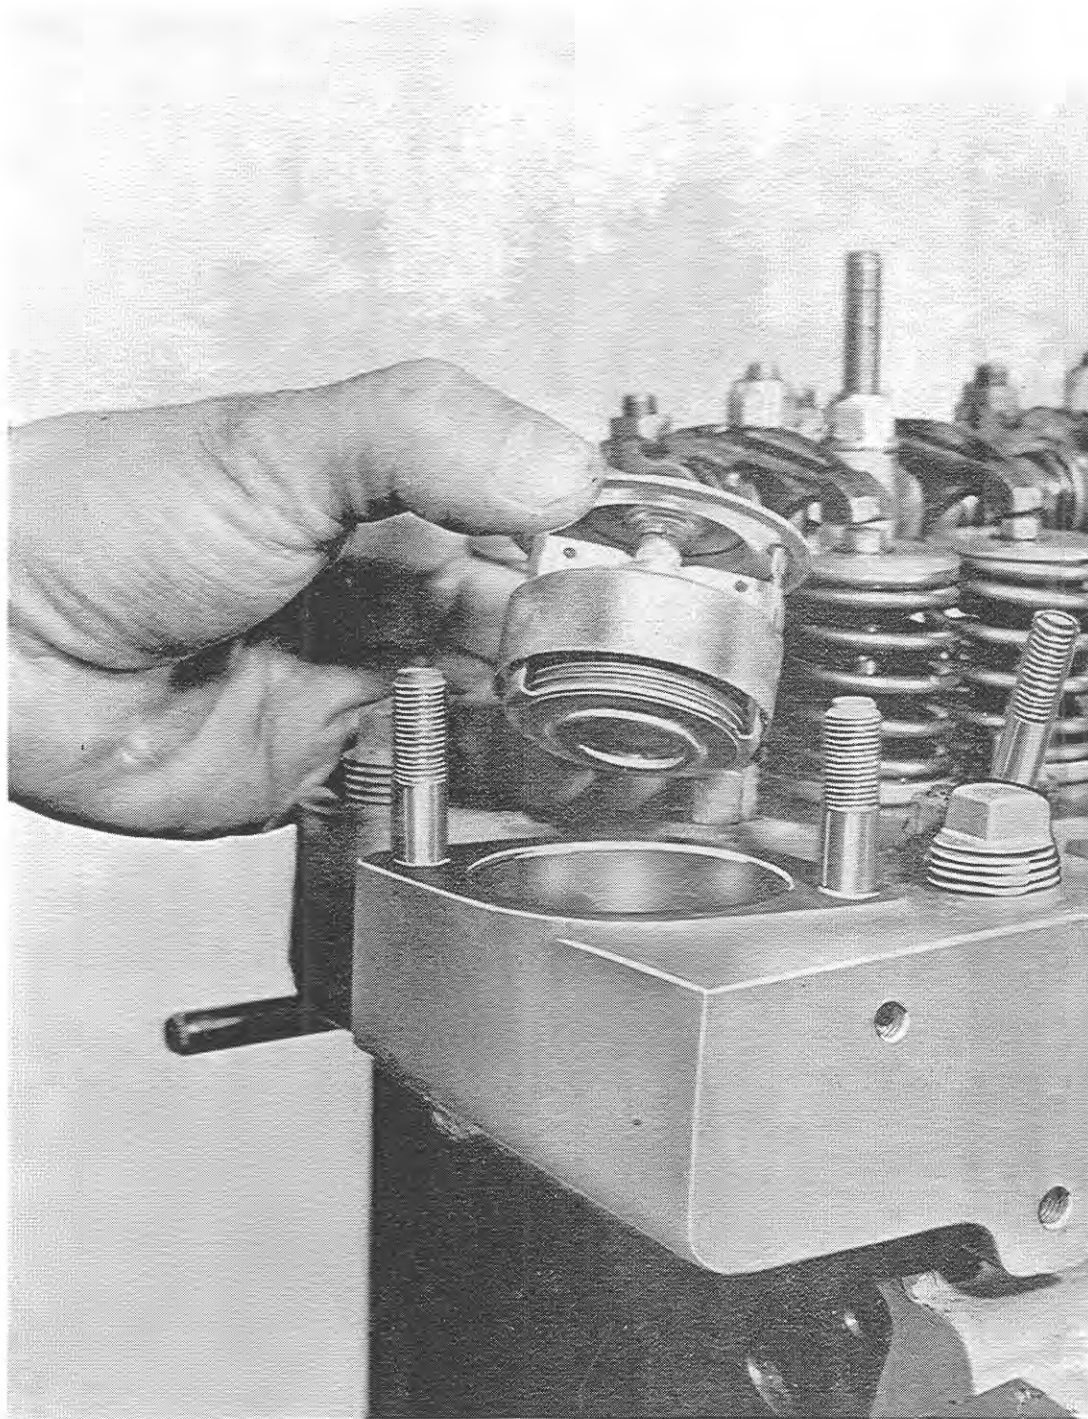

Fig. 1
- 4) Remove the thermostat (Fig. 1).